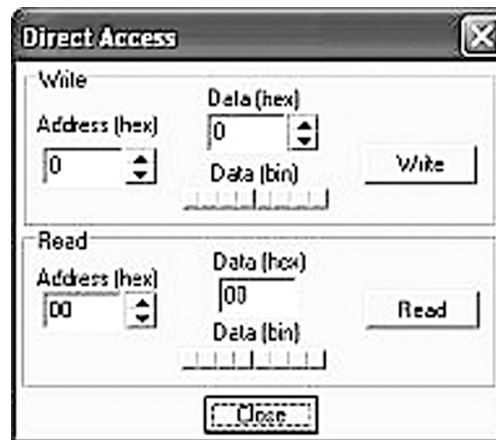

Figure 6. Direct Access to Registers
- Direct access: read from or write to an address directly. As shown in Figure 6, a register can be written directly in the 'write' section, while a register can be read in the 'read' section.